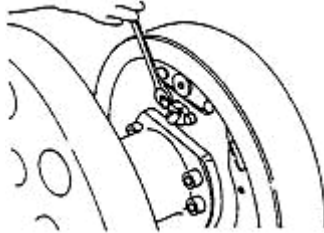

Figure 2-15
(5) Remove the brake pipe from the brake cylinder. Then remove the mounting bolt of the brake cylinder, and remove the brake cylinder from the brake backing plate. See figure 2-15